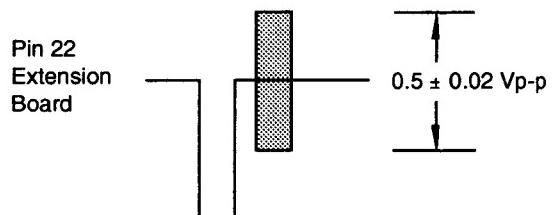

Fig. 4-2-15
- Adjust VR3 so that the Burst level of the Gen-Lock signal becomes 0.5 ± 0.02 Vp-p as shown in the Fig. 4-2-15.